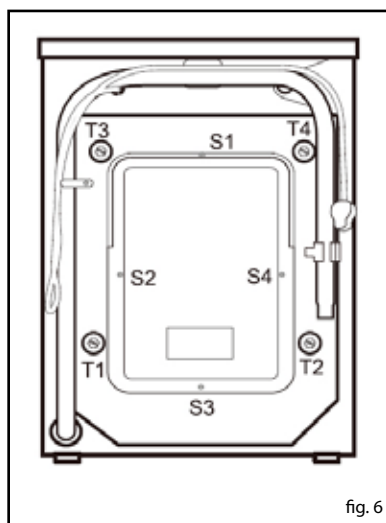

fig. 6
- Loosen the transit bolts (T1, T2, T3 & T4 in fig. 6) using a suitable spanner by turning them anti-clockwise and then remove them.